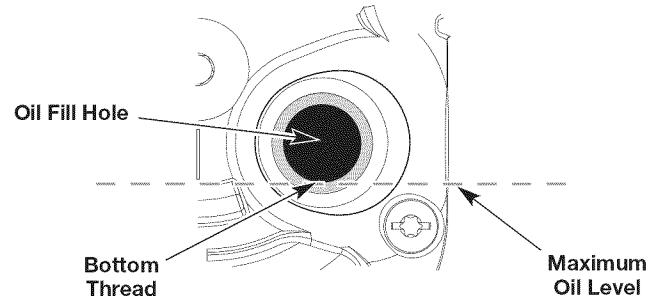

Fig. 19
5. Look into the oil fill hole; use a flashlight if necessary. **The oil level should just touch the bottom thread of the oil fill hole** (Fig. 19). If the oil level is too low, add oil to the oil fill hole until the oil level touches the bottom thread of the oil fill hole.